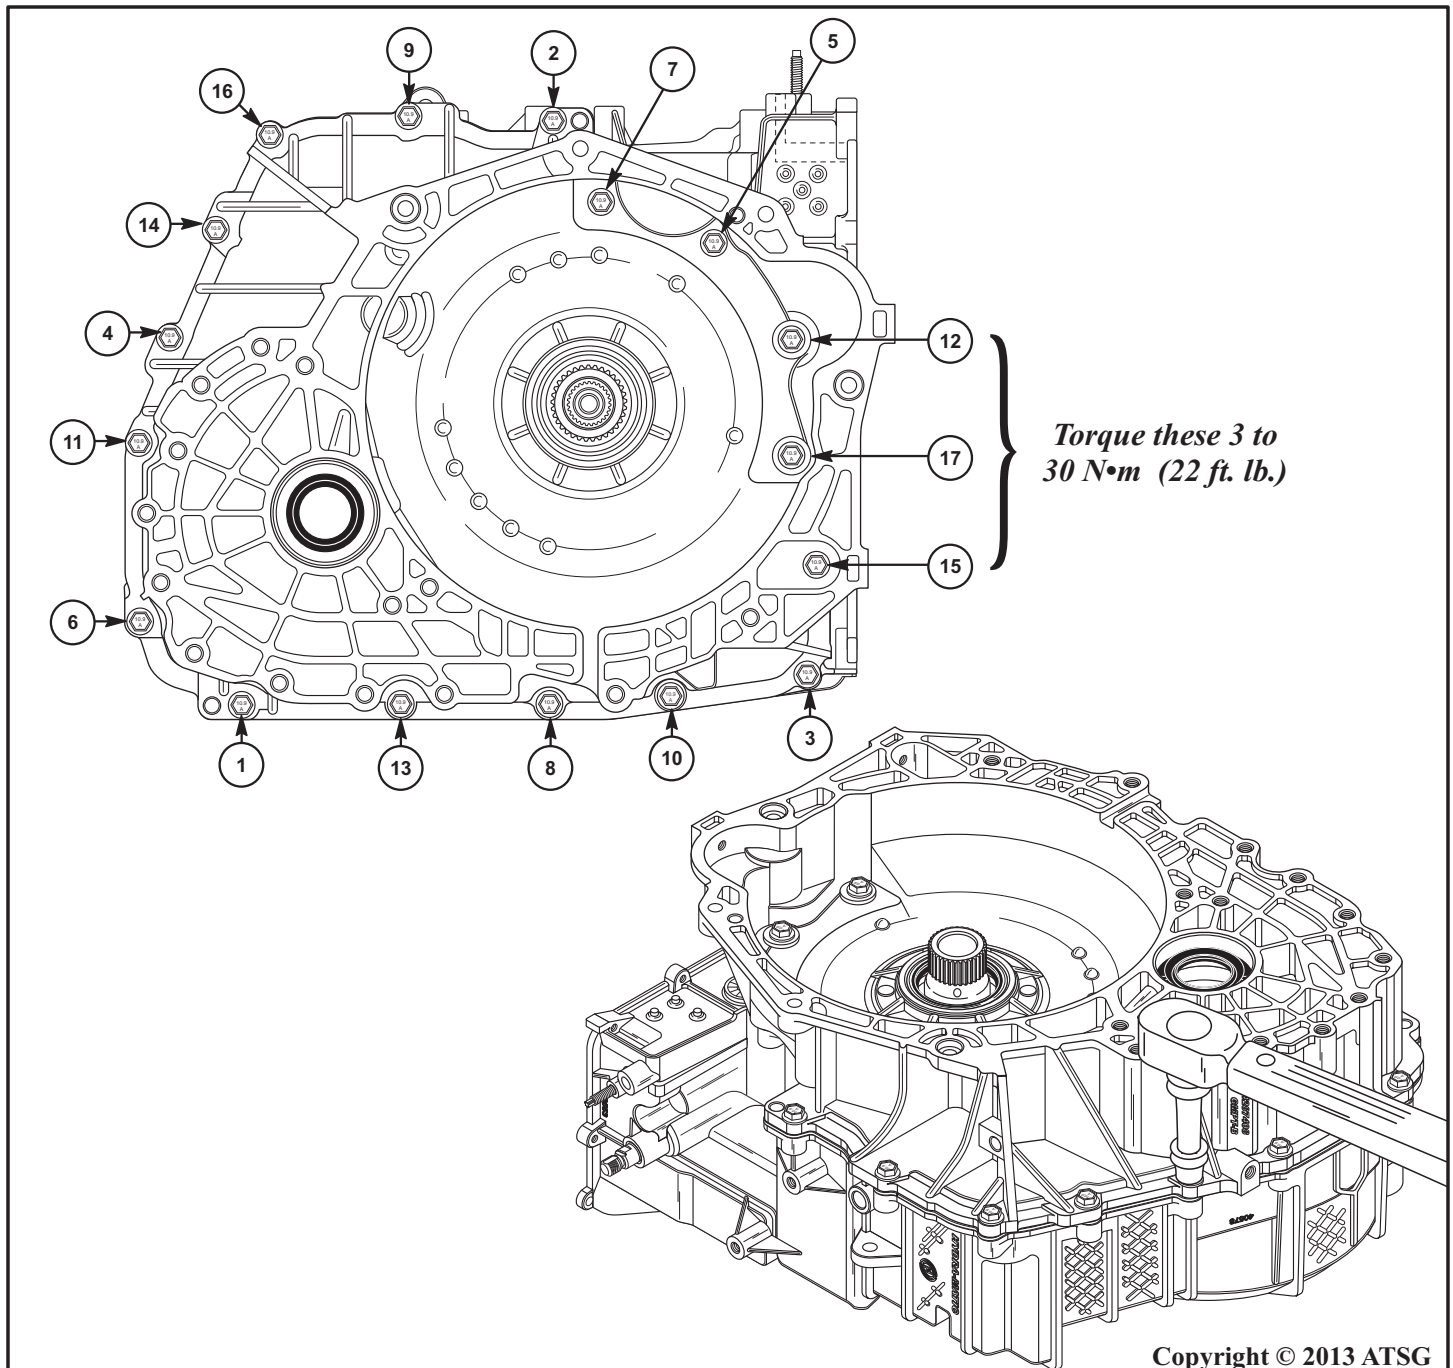

Figure 190
11. Torque all 17 converter housing to case bolts in the sequence shown in Figure 190.